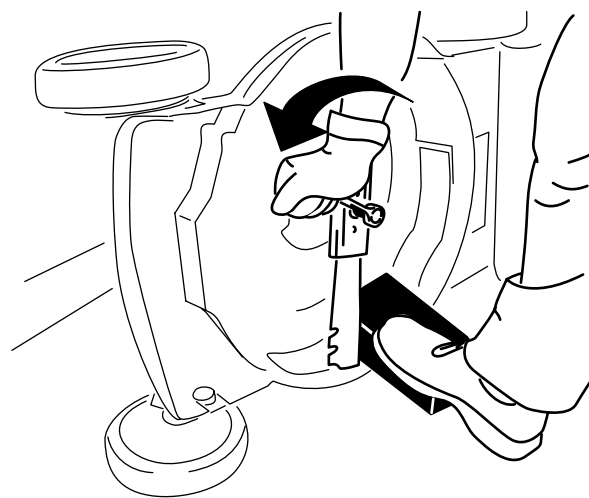

Figure 23
3. Use a block of wood to hold the blade steady (Figure 23).
4. Remove the blade, saving all mounting hardware (Figure 23).